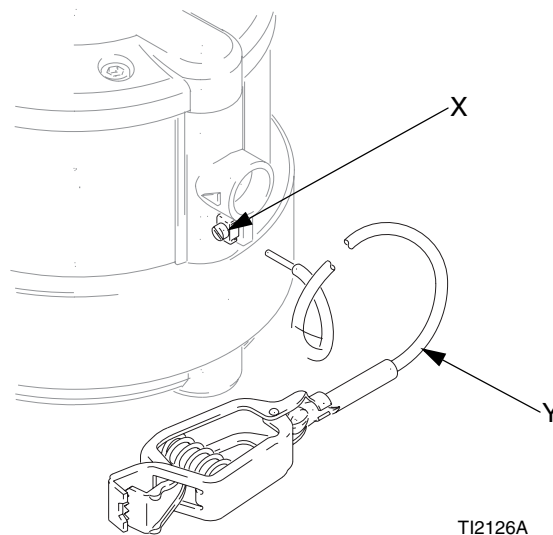

FIG. 3. Grounding the Pump
- *Pump:* use a ground wire and clamp. See FIG. 3. Loosen the grounding screw (X). Insert one end of a 12 ga (1.5 mm²) minimum ground wire (Y) under the clamp and tighten the screw securely. Connect the other end of the wire to a true earth ground. For a ground wire and clamp, order Part No. 222011.